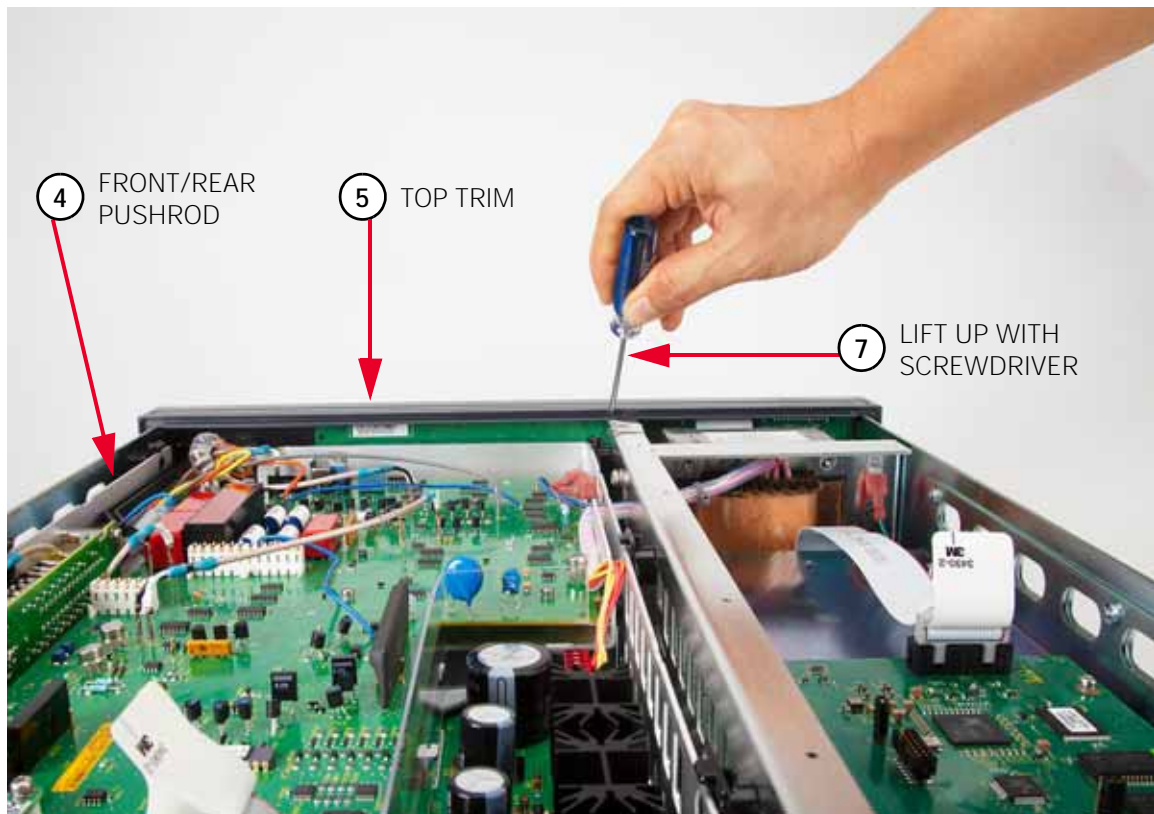

Figure 3-17 Top trim and front/rear pushrod locations, and unlock panel
- 5 Refer to Figure 3-17. Do the following:
- 8 Refer to Figure 3-17. With a small flat bladed screwdriver, lift up the Front Panel assembly and unlock it from the chassis. Carefully move some more of the Front Panel assembly's left side (as seen from the front of the instrument) until free from the chassis. Then move the rest of the Front Panel assembly out and away from the instrument as far as it can go. Note that the assembly can only be moved a short distance, since the front terminals are still internally connected to the instrument.
- 11 Install the top trim into the channel on top of the Front Panel assembly. Lock it in place (see Figure 3-17).
- 13 Refer to Figure 3-17. Guide the Front/Rear Terminals switch pushrod through the rear of the front panel's access hole. Then align the pushrod with the Front/Rear Terminals switch shaft and push it all the way onto the shaft.